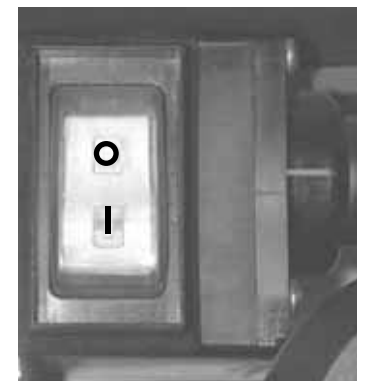

FIG. 17d
**8.1.4)** Connect the electric plug and press the automatic switch (**position "I"**) (Fig. 17d)